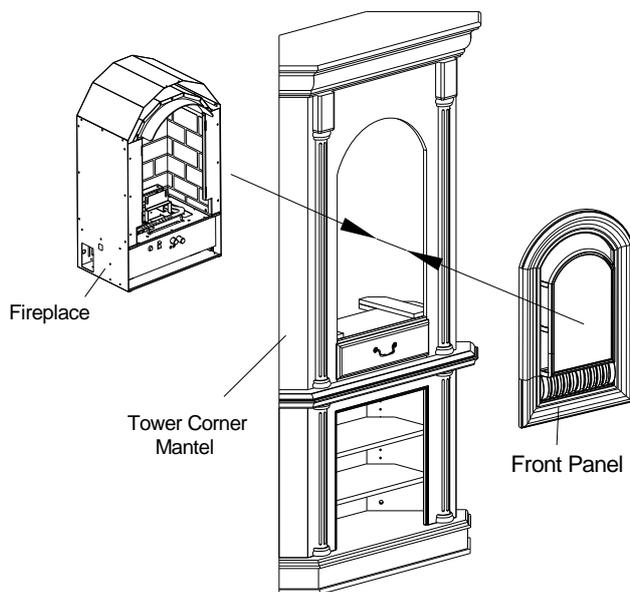
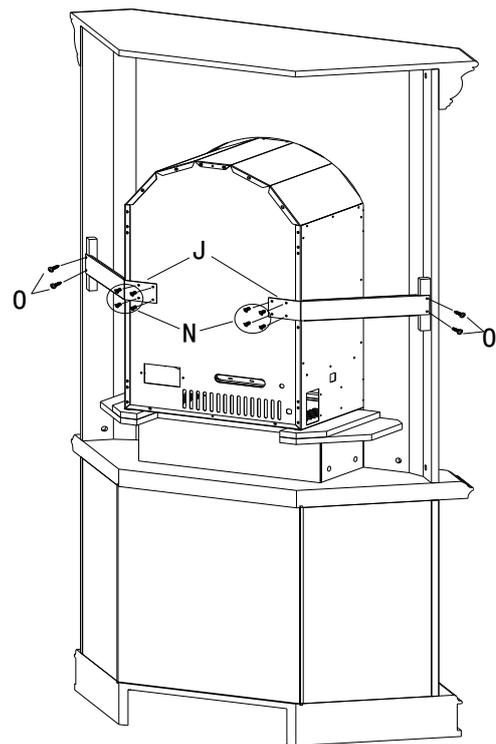

Figure 9
Figure 10
5. Position fireplace inside mantel (see Figure 9). Carefully position gas lines. Important: Use caution when positioning fireplace on base. Base may scratch easy. Make sure fireplace is in proper position within mantel opening.
6. Place the Fireplace into the Tower Mantel according to figure 9, then take out CONNECTOR PANEL (J) and SCREW (N) (O) from the attached package; assemble the Complete Unit and High Mantel with these stuff according to Figure 10.